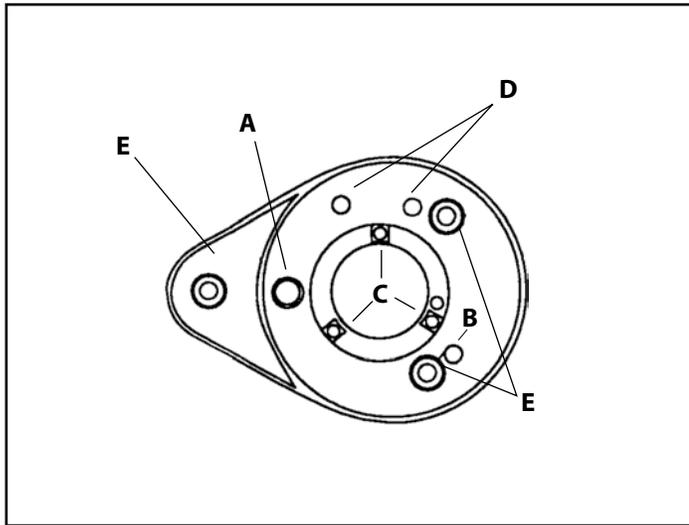

Figure 1
- A. 1966-1979 shovelhead and 1957-1979 ironhead Sportster® models – press plugs 50-8313 into holes “D” in backplate. **(See Figure 1)**
- B. 1980-1984 shovelhead and 1980-1985 ironhead Sportster® models – apply PTFE plumber’s tape or thread lubricant to threads of crankcase breather vent elbow fitting 50-8110 and install in hole “A” in backplate. **(See Figure 1)**
- A. 1984-1989 big twin – press plug 50-8312 into hole “B” in backplate. Apply PTFE tape or thread lubricant to threads and screw crankcase breather vent elbow fitting 50-8110 into hole “A.” **(See Figure 1)**
- B. 1986 and 1987 Sportster® models – press plug 50-8312 into hole “A” in backplate. Apply PTFE tape or thread lubricant to threads and screw crankcase breather vent elbow fitting, 50-8110 into hole “B.” **(See Figure 1)**